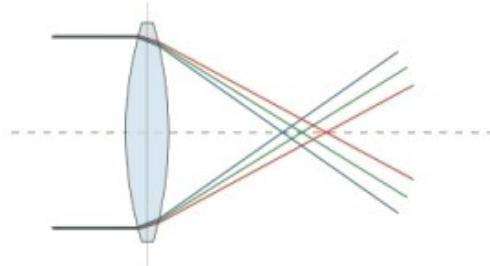

Fig. 14
Chromatic aberration (CA), Figure 14, is caused by light of different wavelengths of light to come to a different focus. This means that the edges of bright objects show 'fringes' of colour.